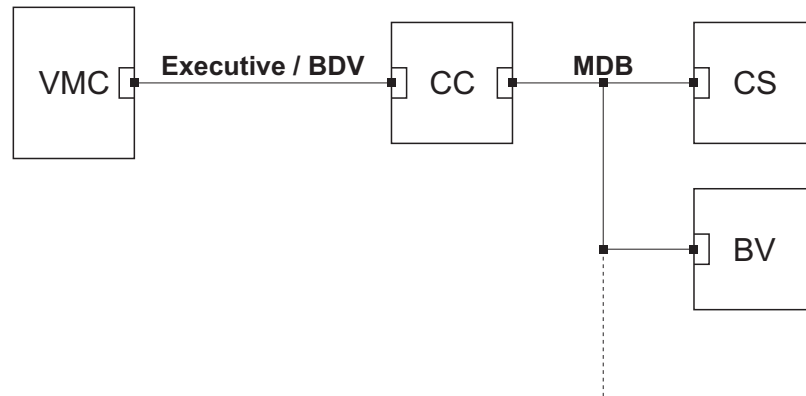

Fig. 4: Connection to a coin changer and peripheral devices
The application example in figure 4 shows the connection of the currenza clip reader (CS) via Y cable to a coin changer and further peripheral devices. There is no data exchange between the vending machine and the currenza clip reader.